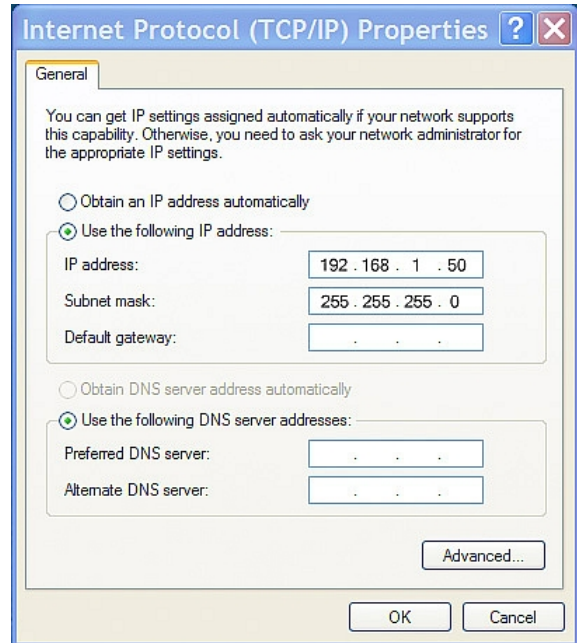

Figure 2.3e- TCP/IP Properties
- In the Local Area Connection Properties window in the Connection Uses box, scroll down and highlight "Internet Protocol (TCP/IP)." Click the button labeled "Properties." The "Internet Protocol (TCP/IP)" Properties menu appears (Figure 2.3e).